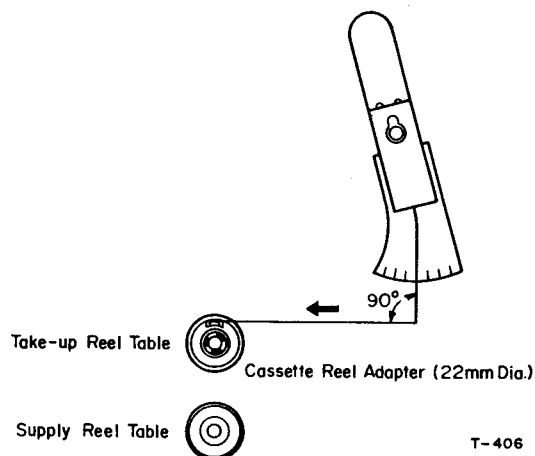

Fig. 4-2 Take-up/Fast Forward Torque Measurement
3. Set the Cassette Reel Adapter (22 mm Dia.), connected to the spring scale (0 ~ 70 g, or 0 ~ 2.5 oz.) by the string as shown in Fig. 4-2 on the Take-up Reel Table.
2. Set the Cassette Reel Adapter (22 mm Dia.), connected to the spring scale (0 ~ 200 g, or 0 ~ 7.0 oz.) by the string as shown in Fig. 4-2, on the Take-up Reel Table.